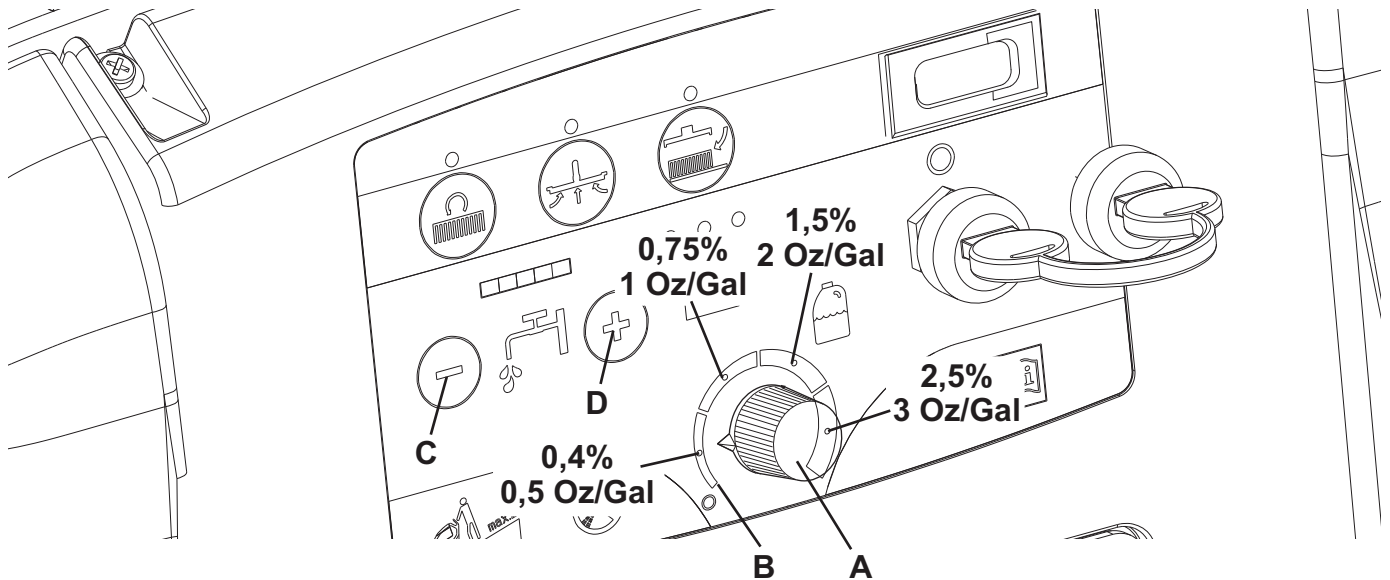

Figure 4
1. Turn the knob (A, Fig. 4) clockwise or counter-clockwise to increase or decrease the detergent concentration.
2. The average detergent concentration values, matching the 4 coloured areas of the scale (B), are shown in the figure.
3. To set the detergent quantity to zero, fully turn the knob (A) counter-clockwise.